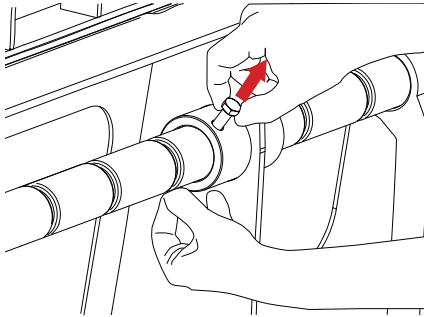

Figure 7
1. Unscrew the bolts holding the two tyne rods in place (Figure 7).